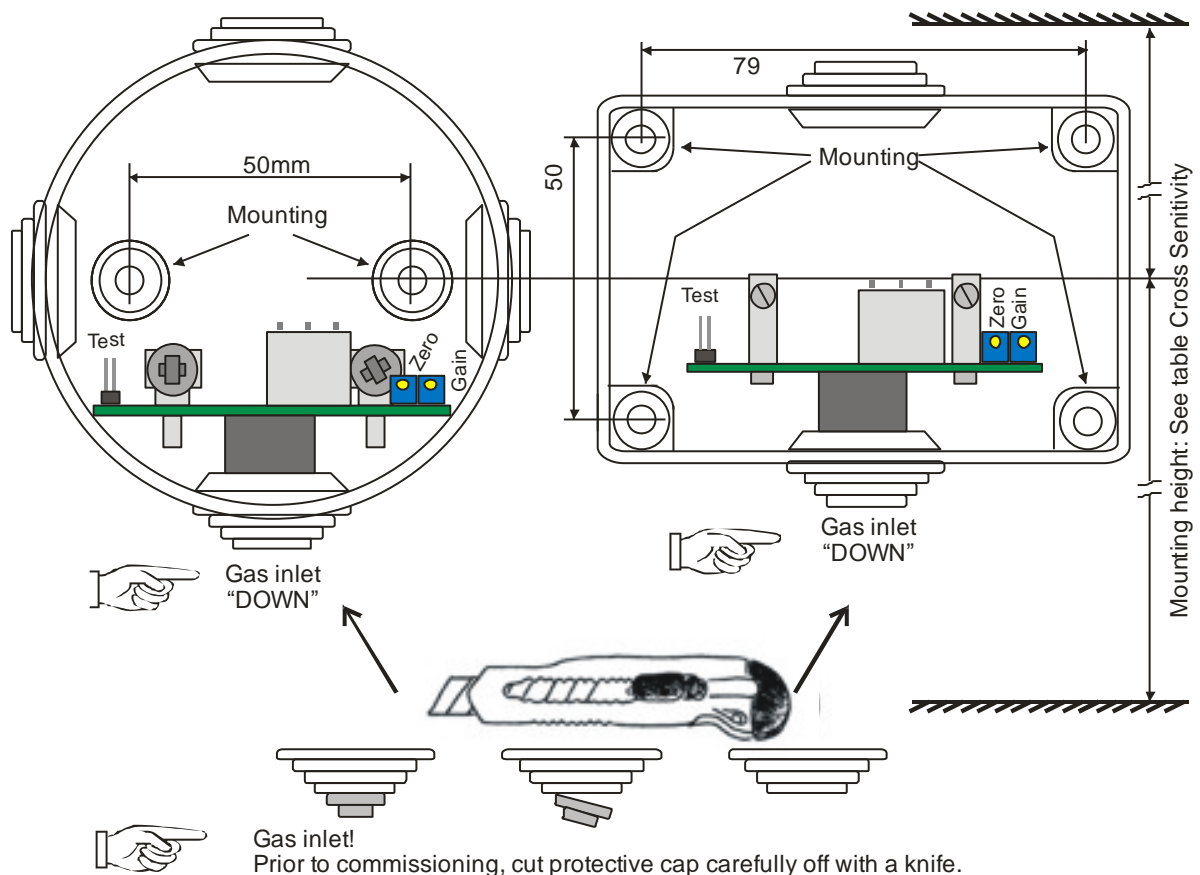

Fig.1 Mounting
- Cut the protective cap at the gas inlet carefully off by using a knife (only for enclosure D / F). See fig.1.